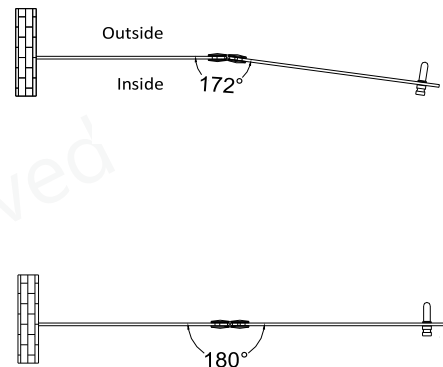

Figure 3
3. Use the supplied Allen Key to loosen the adjustment screws on the hinge plate, adjust the door to the desired angle then tighten the adjustment screws. (Figure 3)